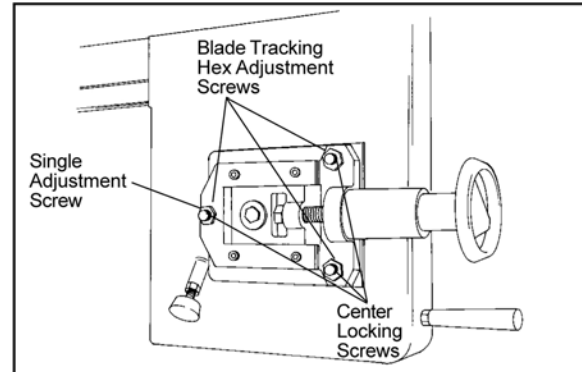

Figure 10: Blade tracking and tensioning
Blade tracking has been tested at the factory. Adjustment is rarely required when the blade is used properly or if the blade is correctly welded. (See Figure 10 for location of blade tracking adjustment screws.)
5. Loosen the center locking screws in all three hex adjustment screws on the blade tensioning mechanism (see Figure 10).